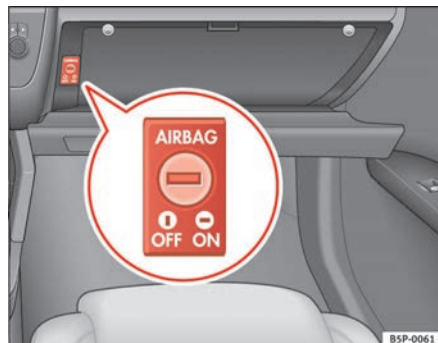

Fig. 26 In the glove compartment: key for enabling and disabling front passenger airbag
- Turn the ignition switch in the key operated switch in the glove box to the position **OFF** ⇒ fig. 26.
- Turn the ignition switch in the key-operated switch in the glove box to the position **ON** ⇒ fig. 26.